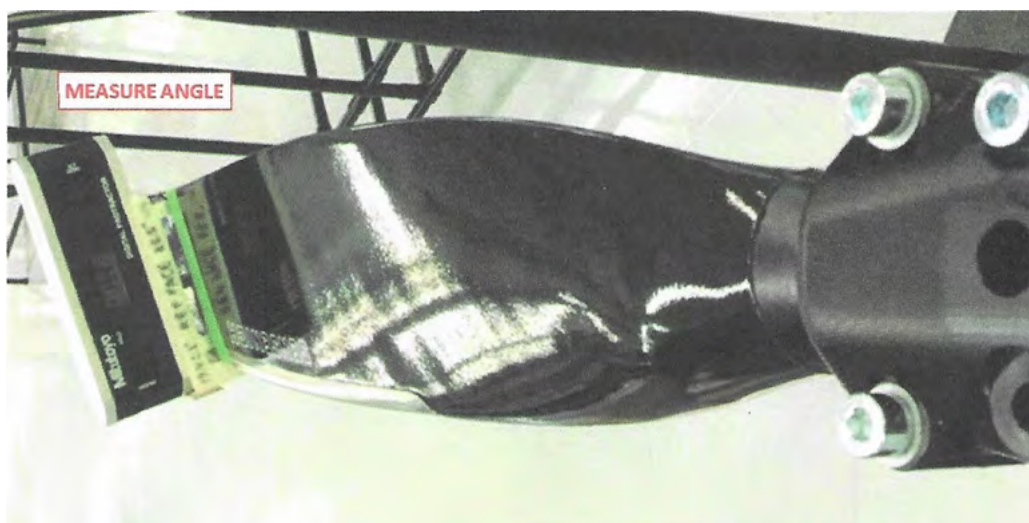

FIGURE 17-68
5. Carefully move the digital protractor and put the digital protractor on the pitch adjustment tool in the same vertical orientation and measure angle of blade. See Figure 17-68.